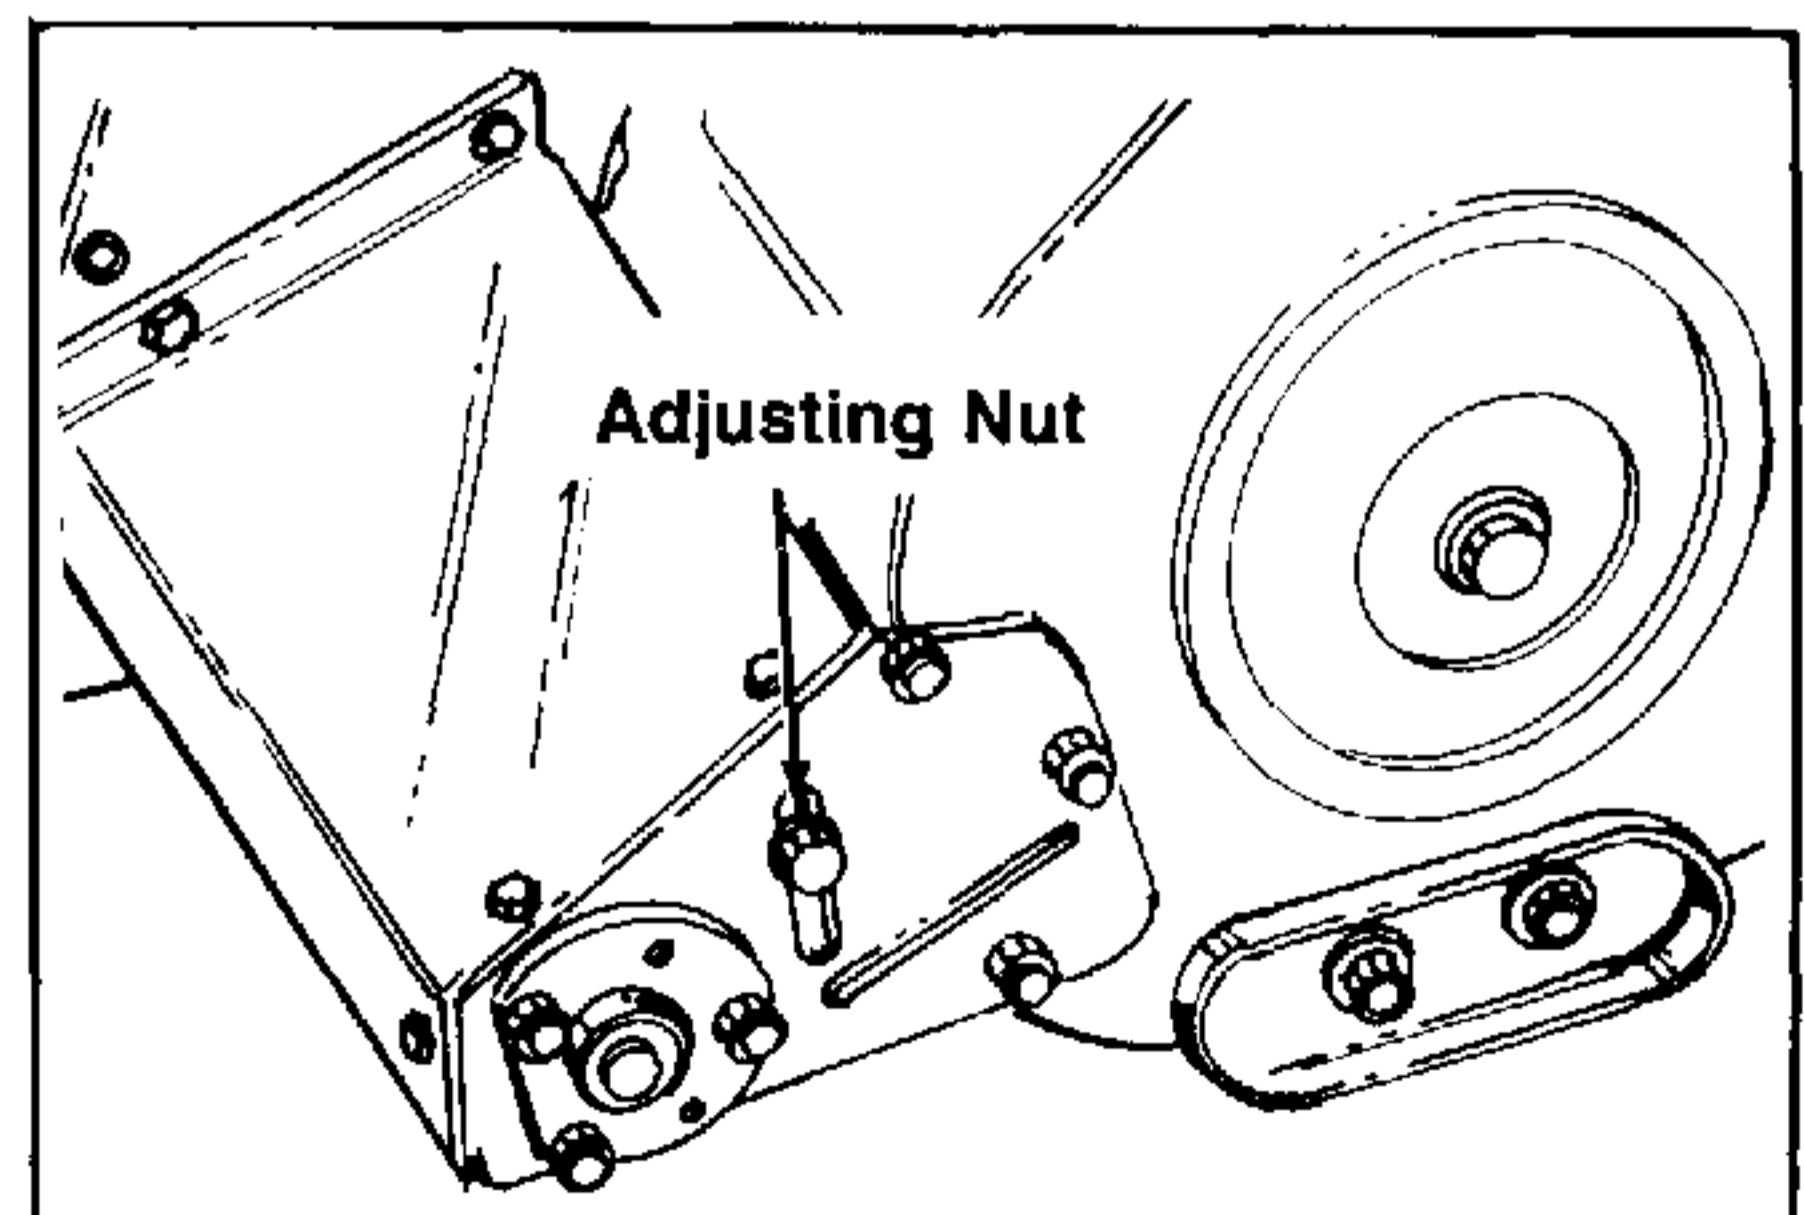

FIGURE 12.
1. Disengage snow thrower and loosen the adjusting nut 2 or 3 complete turns. See figure 12.